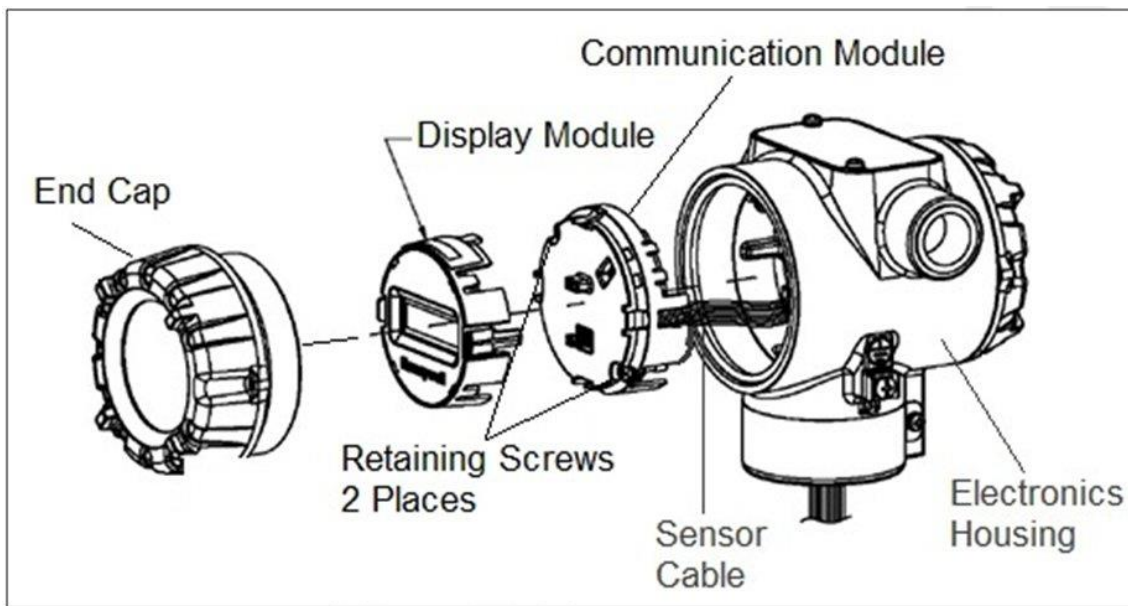

Figure 23 – PWA Replacement
Refer to Figure 23 for parts locations.
16. Install external upgrade label (i.e. DEVICE MODIFIED.....) provided on outside of housing as shown in Figure 23.